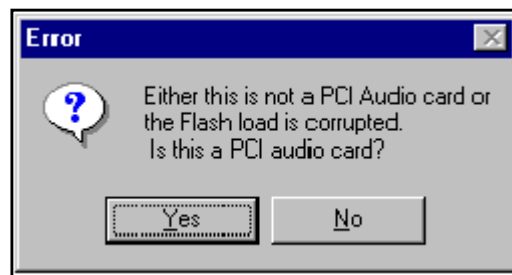
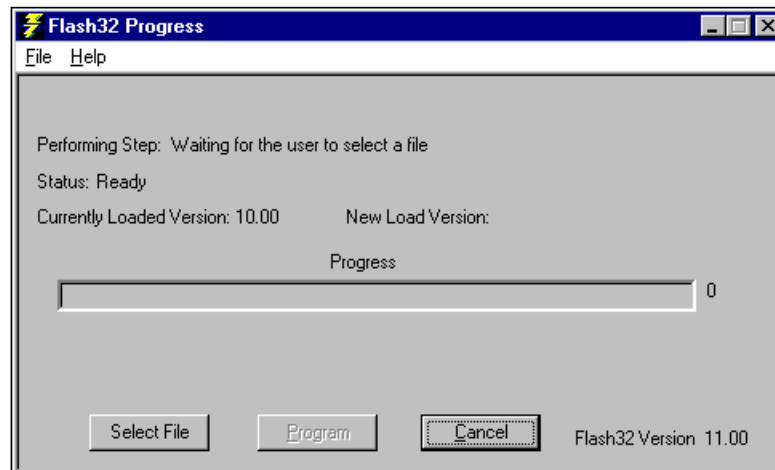

Figure 274. Flash32 error message
Figure 275. Flash32 Progress dialog box (Performing step)
3. Type `c:\mpxbase\tools\flash32` and press **Enter** to display the Flash32 Progress dialog box shown in Figure 275.
Note: If the audio card is not a PCI, or if the flash load is corrupted, an error message is displayed, as shown in Figure 274. If you are sure the position has a PCI audio card installed, select Yes to proceed. Otherwise select No. Selecting No takes you to the Flash32 Progress dialog box shown in Figure 275. To return from there to the Windows 95 desktop, select Cancel.